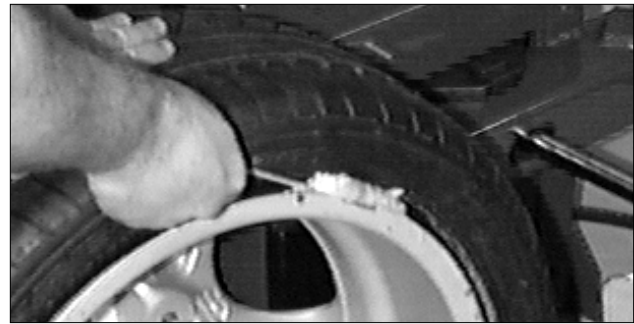

Figure 25 - Lubricate Bottom Bead
4. Liberally lubricate the bottom bead of the tire (Figure 25).